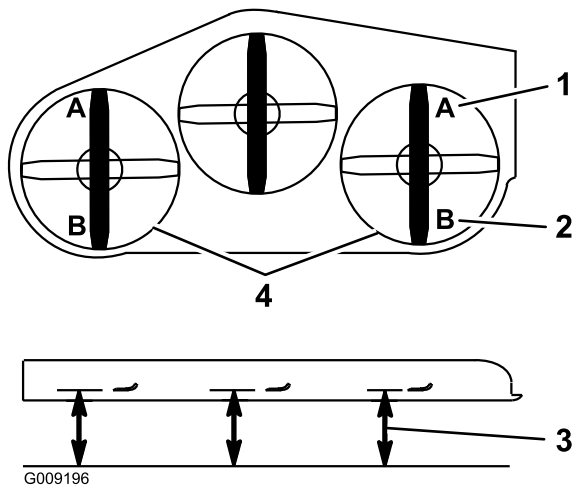

**Figure 93**
5. Push the deck-lift pedal all the way forward and the deck latches at the 14 cm (5-1/2 inches) transport position (Figure 93).